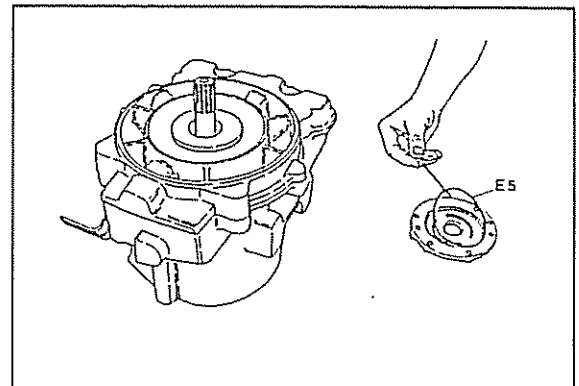

FIGURE B2
1.4 Remove "O" rings and oil seal. NOTE! Retain all used seals, "O" ring and gaskets until they are matched with new parts. After matching these parts will be replaced with new parts on re-assembly. See Figure B2.